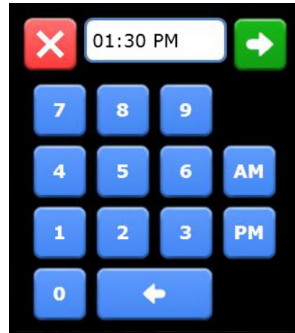

Figure 3.16 — End Time Keypad
- Edit any of the fields in the popup by tapping it to display a keypad on which you can type a new value. For example, tapping the **End Time** field displays the keypad shown in Figure 3.16. To change the **End Time** from **10:22 AM** to **01:30 PM**, you would press the **0**, **1**, **3**, and **0** keys in that order and then press the **PM** button. Lastly, you would press the green arrow button  to submit the new value.